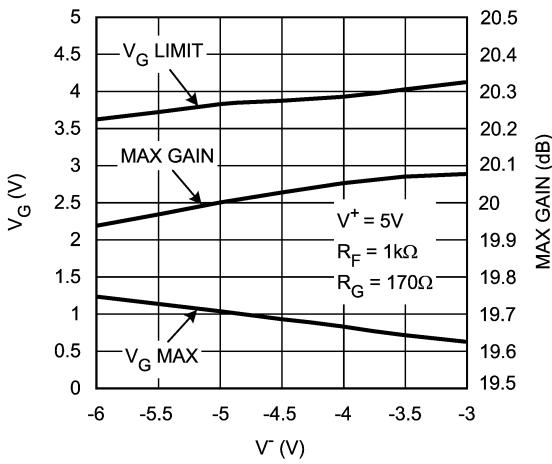

FIGURE 10.  $V_{G\_MAX}$ ,  $V_{G\_LIMIT}$ , & Max-gain vs.  $V^-$  ( $V^+ = 5V$ )
*Figure 10* plots to make sure the region of operation is not overly restricted by the "pinching" of  $V_{G\_LIMIT}$ , and  $V_{G\_MAX}$  curves.
Similar plots for  $V^+ = 5V$  operation are shown in *Figure 10* for comparison and reference.